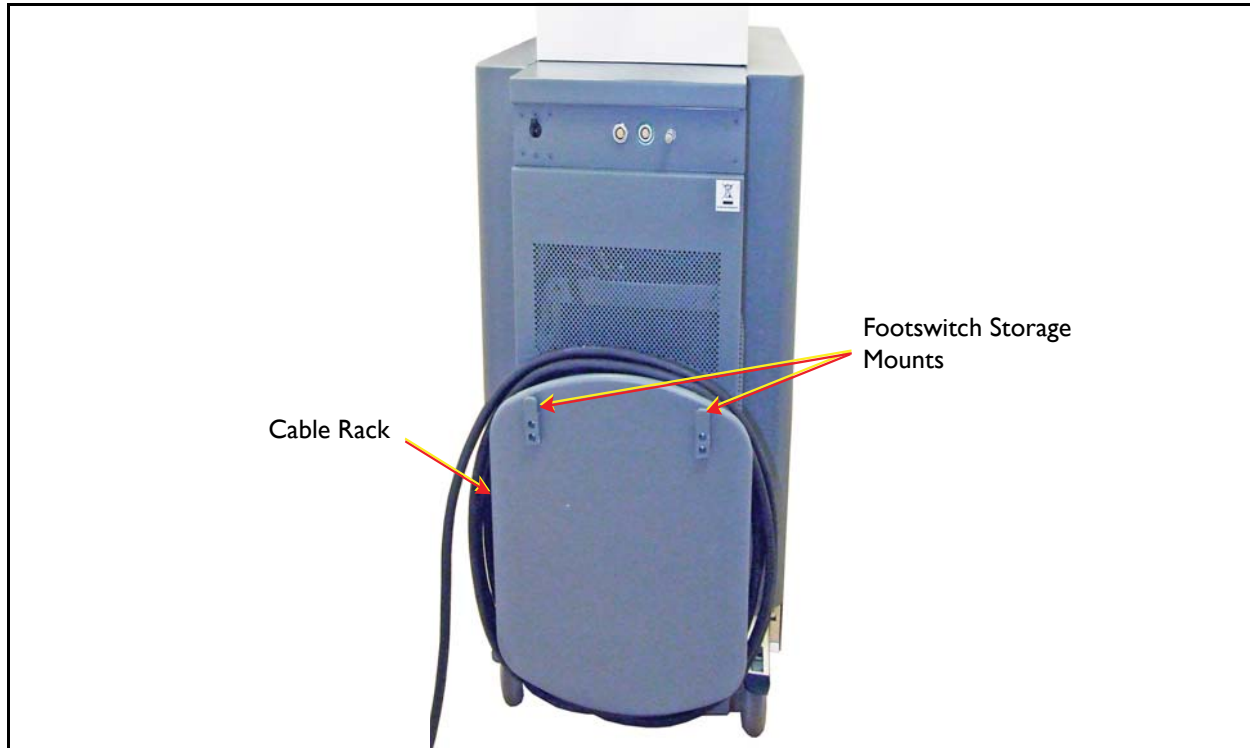

Figure 11: Laser Console Cable Rack and Footswitch Storage Mounts
6. Remove the main power plug from the wall receptacle and wrap the power cable around the cable rack (see figure 11).
7. Remove the footswitch connector from the laser system. and hang it from the footswitch storage mounts (see figure 11).